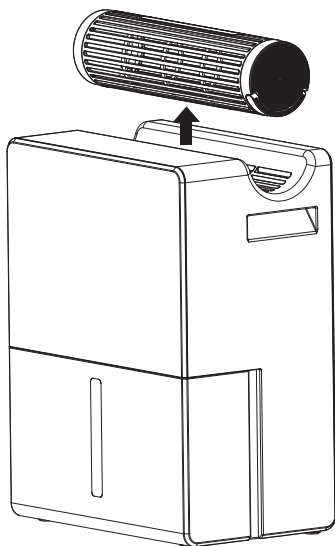

Figure 3
3. Take out the desiccant dehumidifier box (see Figure 3).